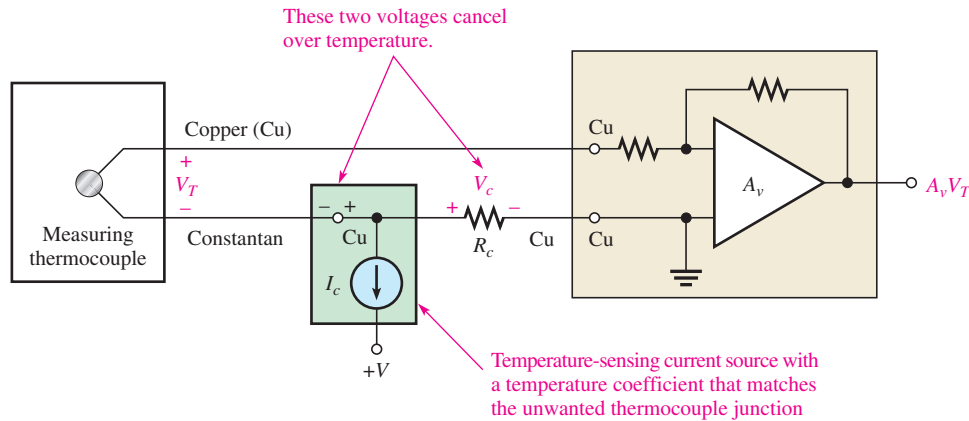

FIGURE 6
**Compensation** It is bulky and expensive to maintain a reference thermocouple at a fixed temperature (usually an ice bath is required). Another approach is to compensate for the unwanted thermocouple effect by adding a compensation circuit as shown in Figure 6. This is sometimes referred to as *cold-junction compensation*. The compensation circuit consists of a resistor and an integrated circuit temperature sensor with a temperature coefficient that matches that of the unwanted thermocouple.
Most thermocouple applications require the cold-junction compensation illustrated in Figure 6 as well as other signal conditioning such as isolation and linearization. These functions are available in special integrated circuits and hybrid modules called *thermocouple signal conditioners*. The 1B51 is an example of a thermocouple signal conditioner. It includes a transformer isolation unit and is designed with very high common-mode rejection because thermocouples have a small signal, which is susceptible to interference, particularly in industrial environments. A built-in 3 Hz low-pass filter helps reject interfering signals such as power line pickup. The cutoff frequency is set to be very low because the thermocouple cannot respond immediately to temperature changes. The 1B51 generates its own input side power to provide channel-to-channel isolation when multiple thermocouples are used.